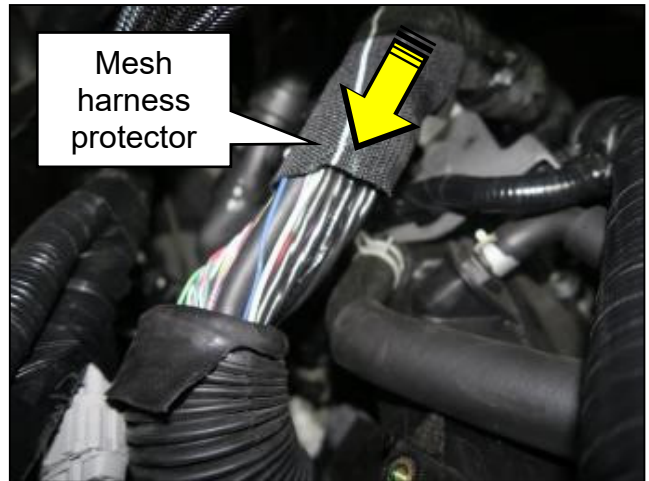

Figure 33
29. Place the mesh harness protector over the wires (Figure 33).